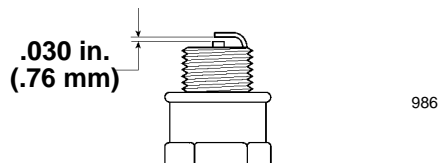

Figure 18
3. Set the gap on the new plug to 0.030" (0.76 mm) (Fig. 18).